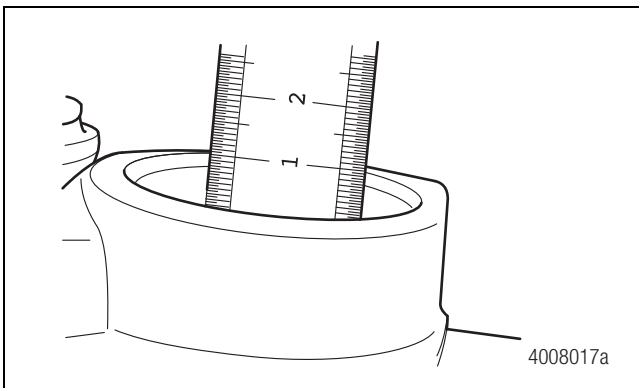
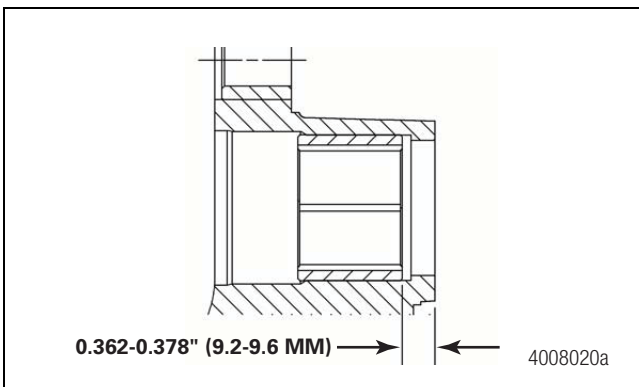

Figure 6.44
Figure 6.45
3. Use the applicable parts of Meritor tool MST1000 to pull the bushing into the slide pin bore to a depth of 0.362- 0.378-inch (9.2-9.6 mm) from the end of the slide pin boot retainer side of the bore. Figure 6.44 and Figure 6.45.